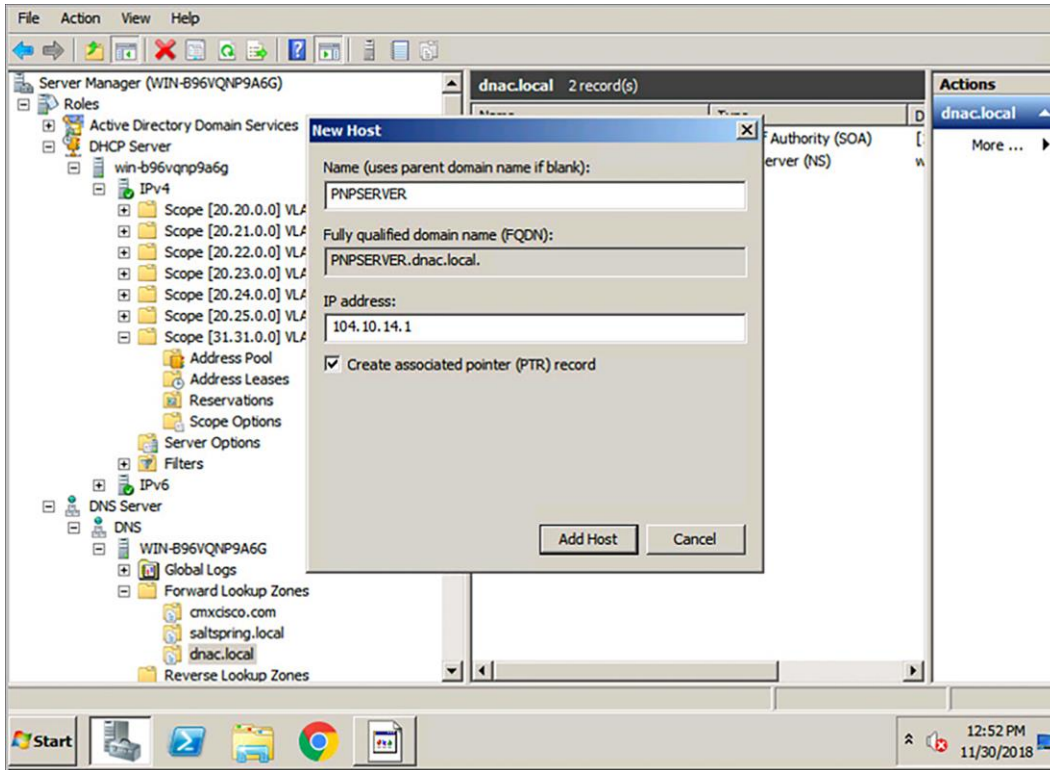

Figure 39.
1. You can create a host record on the DNS server for the domain with the name PNPSEVER and the IP address of Cisco DNA Center (**Figure 39**).
- If Cisco DNA Center has a custom or certificate authority (CA) signed certificate, the certificate must contain the PnP FQDN string in the SAN DNS entries. Make sure Cisco DNA Center has a domain name configured, because if Cisco DNA Center is installed without a domain name, DNS-based discovery will fail.